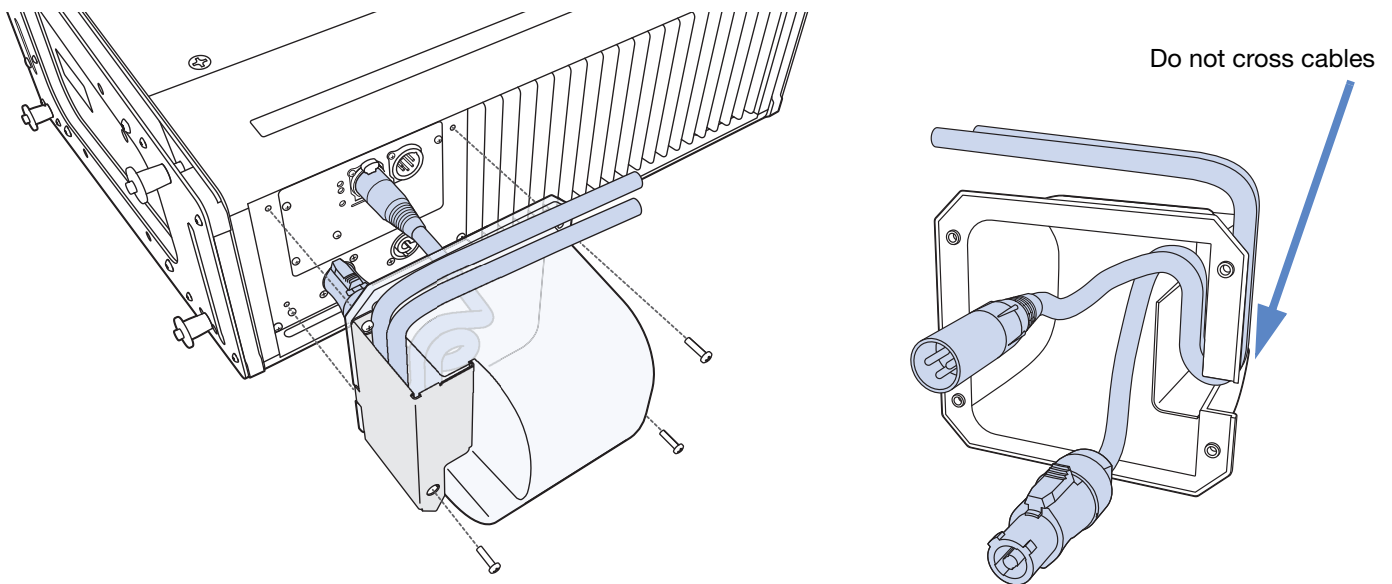

Figure 1: LINA with Rain Hood and UW Shield (left) and Cable Routing over Inner Wall (right)
The LINA rigid removable rain hood plus UW rain hood shield are easily attached and removed with the included four screws (Figure 1).
2. Carefully route the cables, so that they wrap over and down the inner rain hood wall (see Figure 1, right), and exit through the slot.
4. Engage 2-3 threads on the upper- and lower-left screws. The cables should exit to the left when viewing from the rear of the loudspeaker. Do not cross the cables at the rain hood opening (see Figure 1, right).
CAUTION: There is only one proper loudspeaker orientation once the rainhood is installed. See Figure 1.